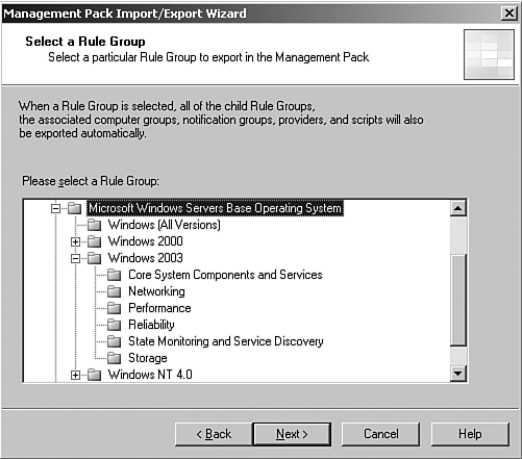

FIGURE 13.9 Select a rule group to export.
3. On the Select a Rule Group page, you will be asked to select a particular rule group in the rule group to export, as shown in Figure 13.9.